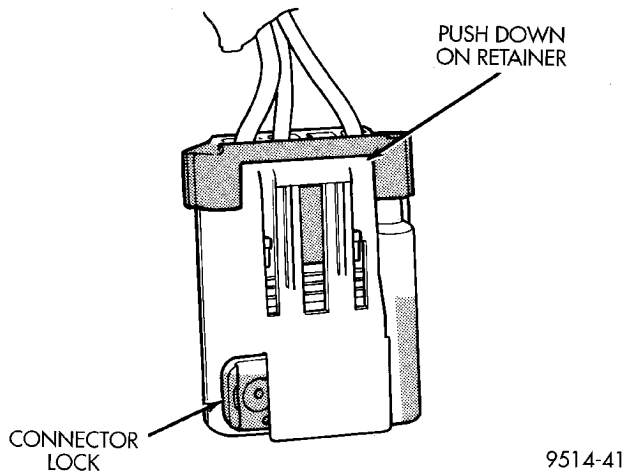

Fig. 46 Module Connector Retainer and Lock
- (7) Slide electrical connector lock to unlock.
- (8) Push down on connector retainer (Fig. 46) and pull connector off module.
- (9) Use a transmission jack to support fuel tank. Remove bolts from fuel tank straps.
- (10) Lower tank slightly. Carefully remove filler hose from tank.